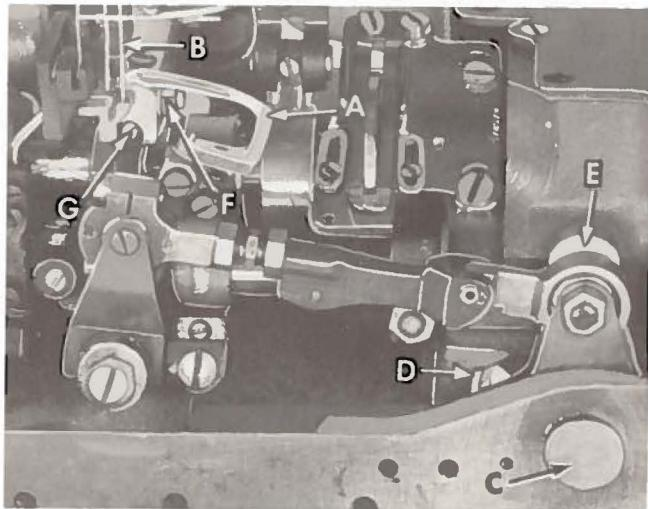
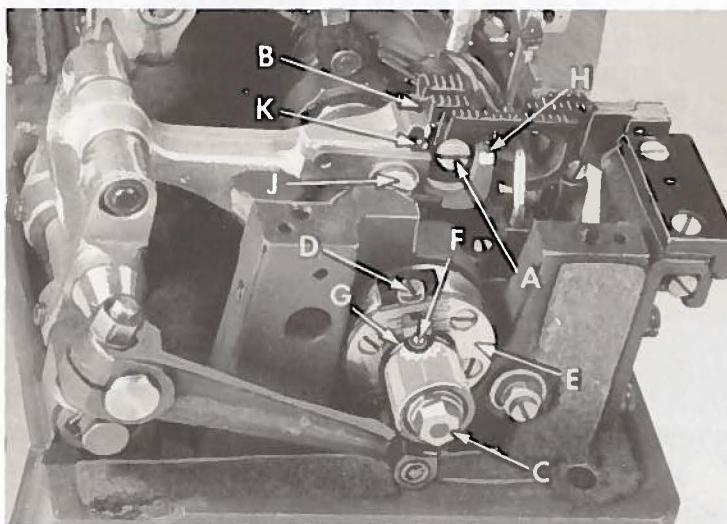

Fig. 5
Fig. 8
Insert the front looper (A, Fig. 5) in the looper rocker and turn handwheel in operating direction until the point of the looper, moving to the left is even with the left side of right needle (B). Note the height of the eye of the needle with respect to the looper point, then turn handwheel in the reverse direction until the looper point again moves to the left and is even with the left side of the right needle. If the motions synchronize, the height of the eye of the needle with respect to the looper point will be the same. A variation of .005 inch (.127 mm) is allowable. If the distance from the eye of the needle to the point of the looper is greatest when the pulley is turned in the operating direction, move the looper drive shaft synchronizing stud (C, Fig. 5) to the rear. Moving it in the opposite direction acts the reverse.
NOTE: Looper drive lever (E, Fig. 5) has an oil seal collar and an "O" ring between it and the bed casting. All end play must be removed from the looper drive lever rocker shaft by compressing the "O" ring until lever (E) and oil seal collar make metal to metal contact with the bed casting. Tighten screw (D).
The tips of the feed dog teeth should extend $1\frac{1}{4}$ tooth depth or approximately $3/64$ inch (1.19 mm) above the throat plate and parallel with the throat plate at high point of travel. The height can be adjusted by loosening screw (A, Fig. 8) which holds the feed dog in position, turn height adjusting screw (B) as required and retighten screw (A). If feed dog teeth are not parallel with the throat plate, loosen nut (F, Fig. 5) and turn screw (G) clockwise to lower the front teeth, or counter-clockwise to raise the front teeth. Retighten nut (F) when feed dog is set properly.
Set the stitch to required length. This is accomplished by loosening the locknut (C, Fig. 8) 1/2 turn (it has a left hand thread) on the end of the stitch regulating stud and turning the stitch adjusting screw (D) located under the left end of the cloth plate, in the head of the main shaft (E), which is marked with 'L' and 'S'. Turning the
Set the rear needle guard (H, Fig. 8) horizontally so that it does not quite contact the rear of the needles when at its most forward point of travel. A clearance of .005 inch (.127 mm) is permissible. It should be set as low as possible, yet have its vertical face approach within about 3/64 inch (1.19 mm) of the needles, until the points of the loopers moving to the left, are even with the needles. To move the guard forward or rearward, merely loosen screw (J), move needle guard as required, and retighten screw. To raise or lower needle guard, loosen screw (J) and turn screw (K) clockwise to lower needle guard or counterclockwise to raise it. Retighten screw (J) after guard is properly set.